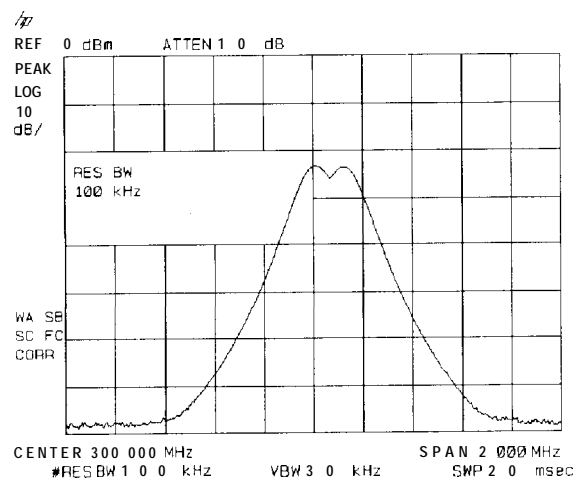

Figure 3-2. Resolving Signals of Equal Amplitude
Generally, to resolve two signals of equal amplitude, the resolution bandwidth must be less than or equal to the frequency separation of the two signals. If the bandwidth is equal to the separation a dip of approximately 3 dB is seen between the peaks of the two equal signals, and it is clear that more than one signal is present. See Figure 3-2.
- Since the resolution bandwidth must be less than or equal to the frequency separation of the two signals, a resolution bandwidth of 100 kHz must be used. Change the resolution bandwidth to 100 kHz by pressing **BW** 100 **(kHz)**. Two signals are now visible as in Figure 3-2. Use the knob or step keys to further reduce the resolution bandwidth and better resolve the signals.